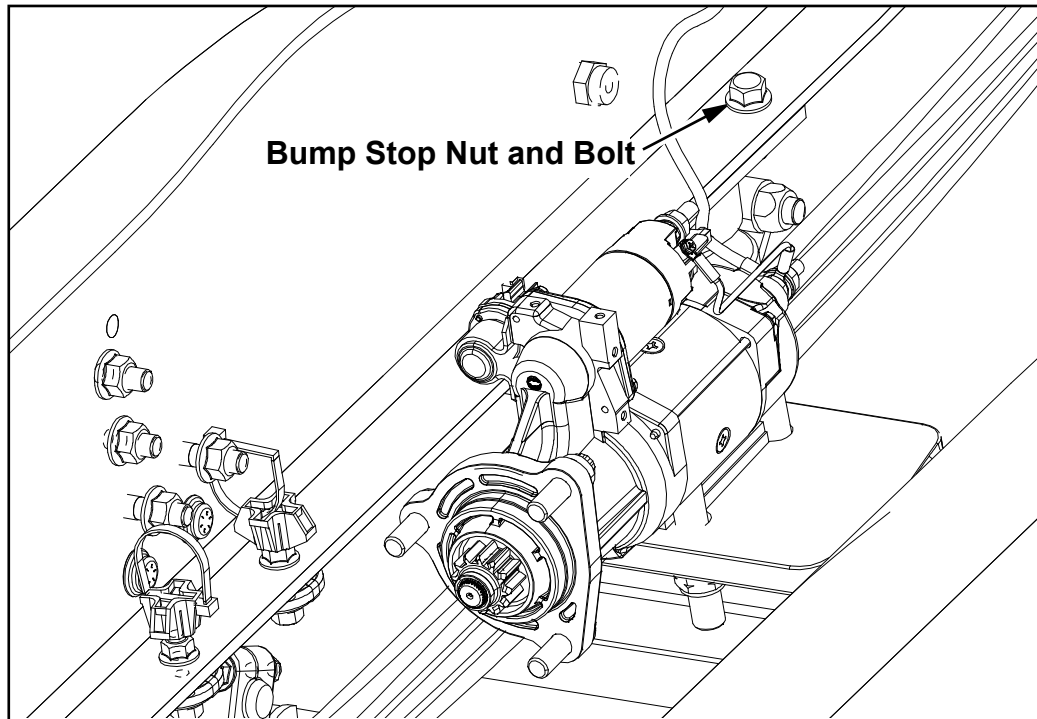

Figure 9
5. Install the FE410150AW15 bolt and the FE286250BW01 nut in the orientation shown and torque to 105 lb.-ft (see Figure 9).